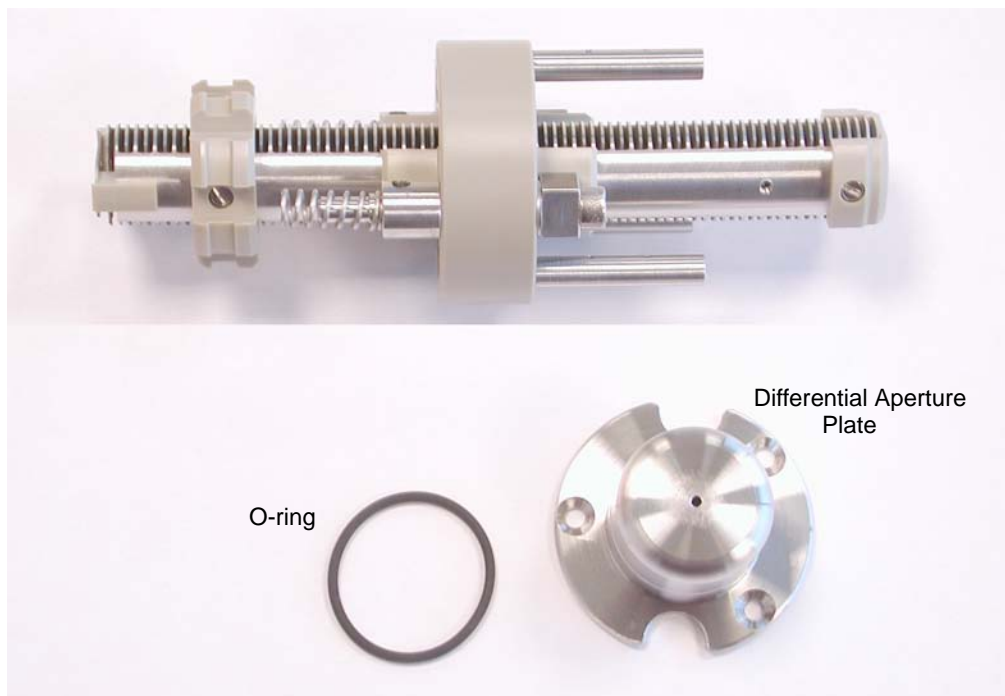

Figure 8-7 Source Ion Guide Assembly Components
5. Carefully remove the plate from the ion guide. The ion guide assembly components are shown in Figure 8-7.